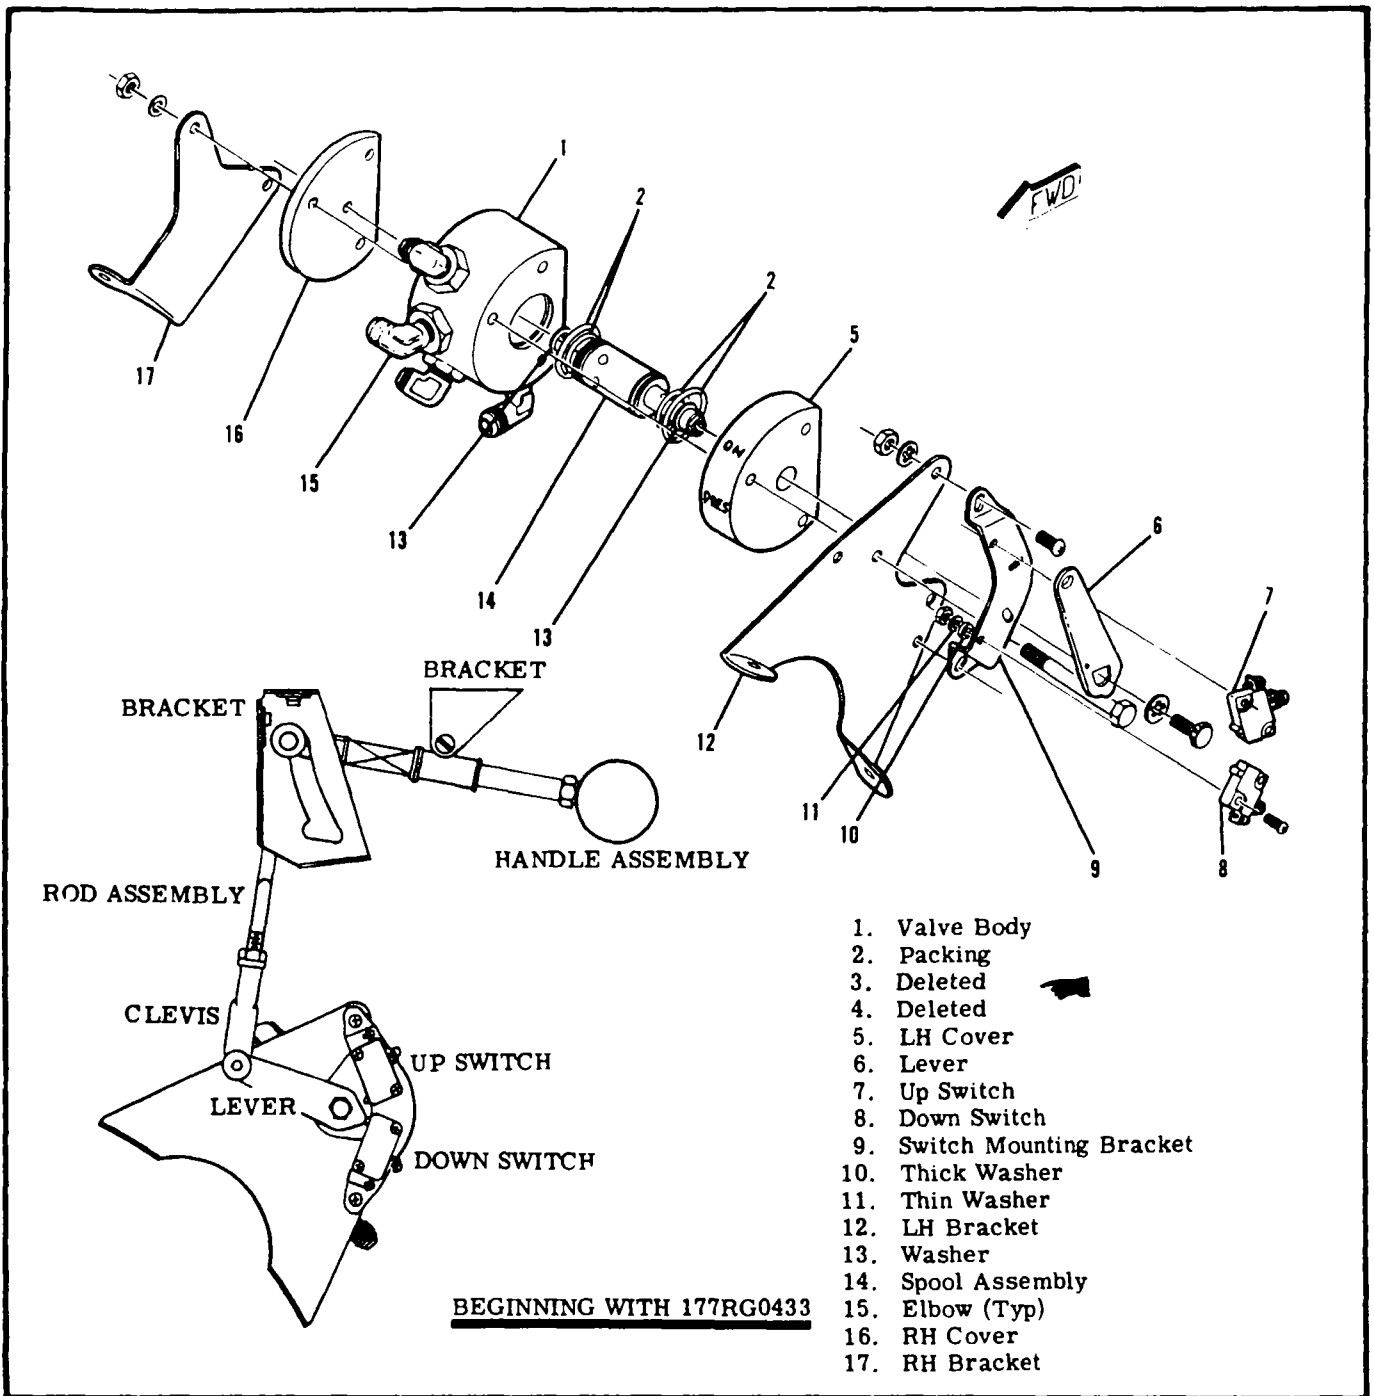

Figure 5-4. Landing Gear Selector Assembly
5-12. PANEL MOUNTED GEAR SELECTOR VALVE. (Beginning with 177RG0433 and F177RG0093.) (Refer to figure 5-4.)
- e. Using figure 5-4 as a guide, remove bolts, washers and nuts attaching LH bracket (12) and RH bracket (17) to top of tunnel; remove selector and brackets as an assembly.
5-15. DISASSEMBLY. (Refer to figure 5-4.)
5-17. ASSEMBLY. (Refer to figure 5-4.)
5-19. RIGGING. (Refer to figure 5-4.)